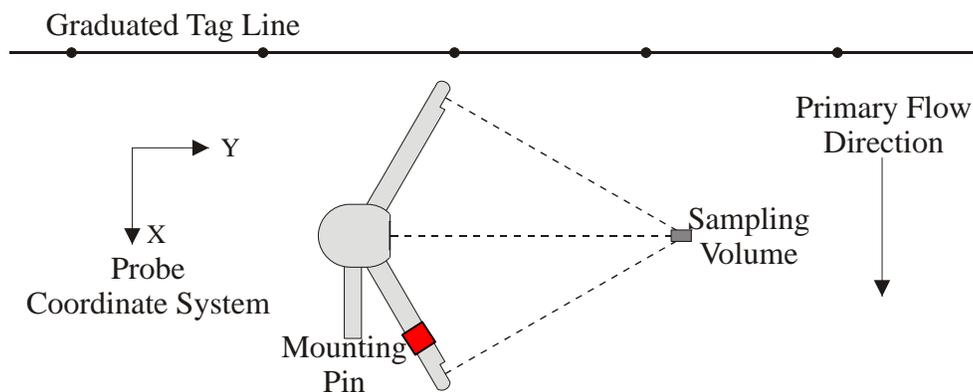

Figure 4 – FlowTracker Probe Orientation Relative to Stream Flow
- During velocity measurements, the probe's X-axis is maintained perpendicular to the tag line (Figure 4); the red band (receiver arm #1) should face downstream. Only the X-component of velocity (V_x) is used to ensure proper discharge calculation, regardless of the flow direction (flow direction is also measured and recorded).